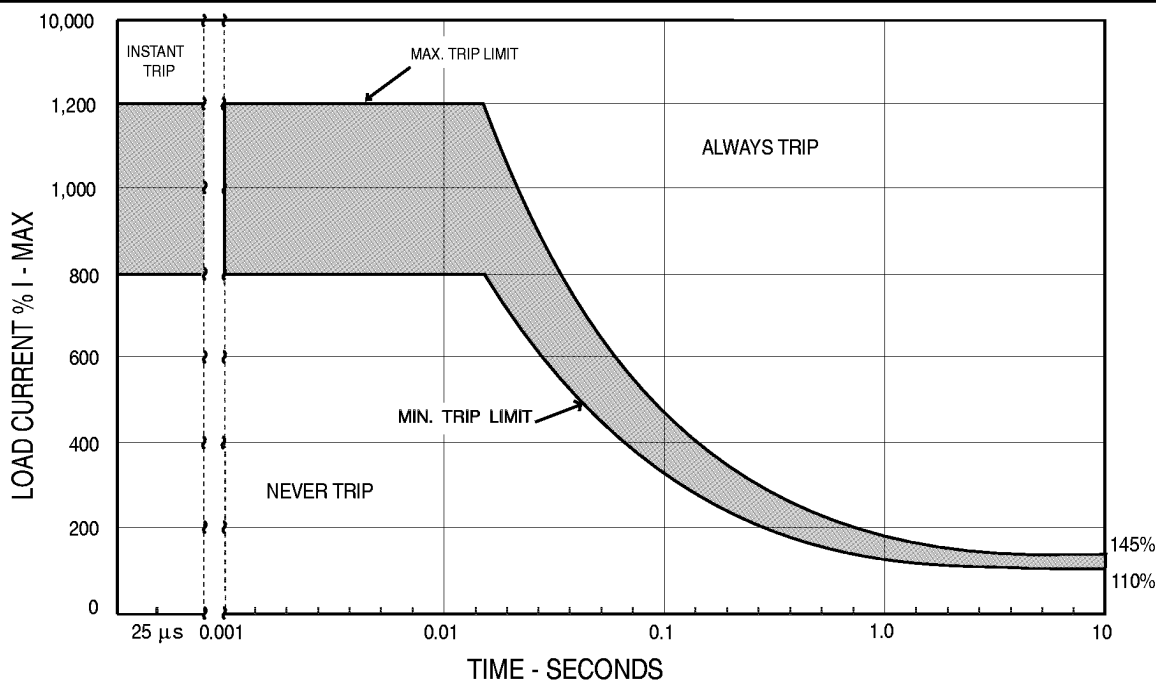

FIGURE 2. TRIP CHARACTERISTICS
Trip Characteristics	see FIGURE 2
As in a circuit breaker, the SSPC's time to trip depends on the current level. Slight overloads will cause longer trip times. Heavy overloads will cause shorter trip times. The fault ("Instant Trip") and I²T trip curve, FIGURE 2, shows the trip time as a function of current for a single trip or repetitive trips with at least 10 seconds between trip and turn on. Attempts to repeatedly turn on into an overload will result in the thermal memory shortening each trip time. This "memory" protects the wire, load and Solid-State Power Controller.
For load currents less than 800%, the trip time can be found from FIGURE 2 by drawing a horizontal line on FIGURE 2 at the current level of interest. The SSPC will always trip at a time between the two curves. This is true I²T tripping.
For load currents greater than 1200%, the SSPC will turn off in less than 25 μs. Between 800% and 1200%, the SSPC will turn off in a time less than the "max. trip limit" shown in FIGURE 2 and may turn off in less than 25 μs. When the SSPC turns off under these fault conditions, the fall time is less than 25 μs.
Capacitive loads require comparing the load inrush current to the trip curve of FIGURE 2. The inrush current must be below the minimum trip curve to avoid tripping on the inrush current.
- 1) Any trip condition per Figure 2.